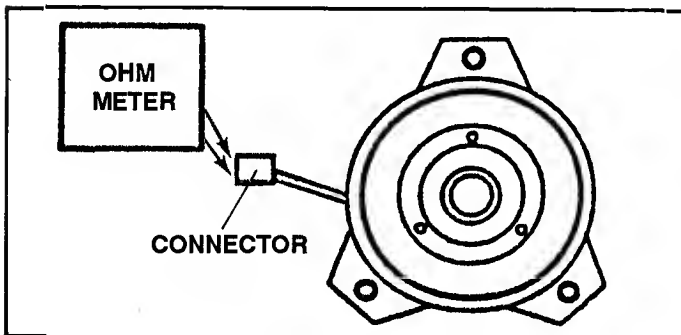

FIGURE 3.15
2. Disconnect clutch wire connectors. See Figure 3.15.
3. Connect OHM meter leads to the two wires in the clutch connector. Refer to Figure 3.15.